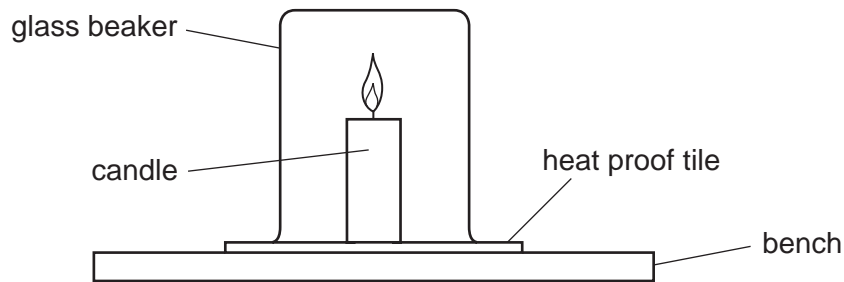

Fig. 1.1
- The beaker was placed over the candle and the timer started (see Fig. 1.1).